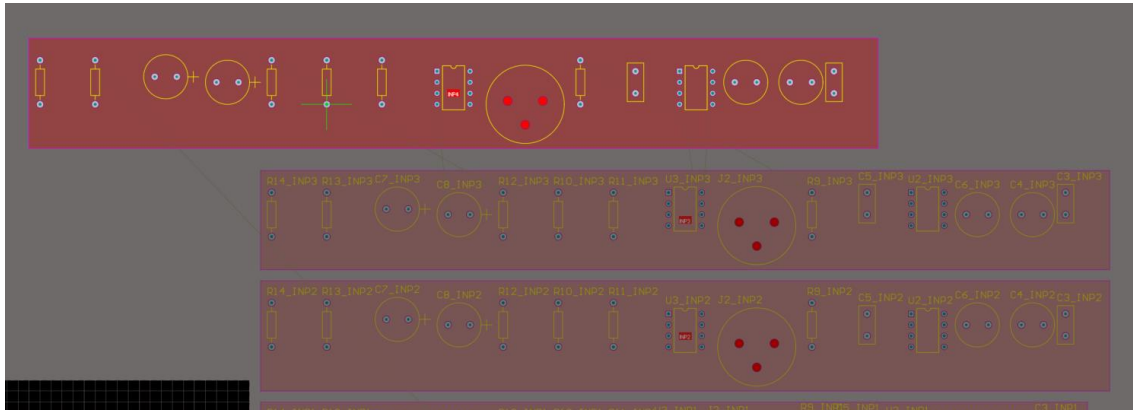

Figure 3. Moving room **INP4**
11. Back in the PCB, click on room **INP4** located on the top right of the editor workspace and drag it to the left, as shown in Figure 3. Notice that all of the components in the room move as well.